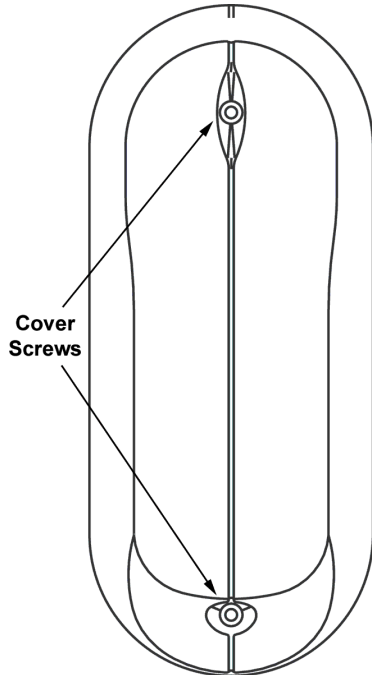
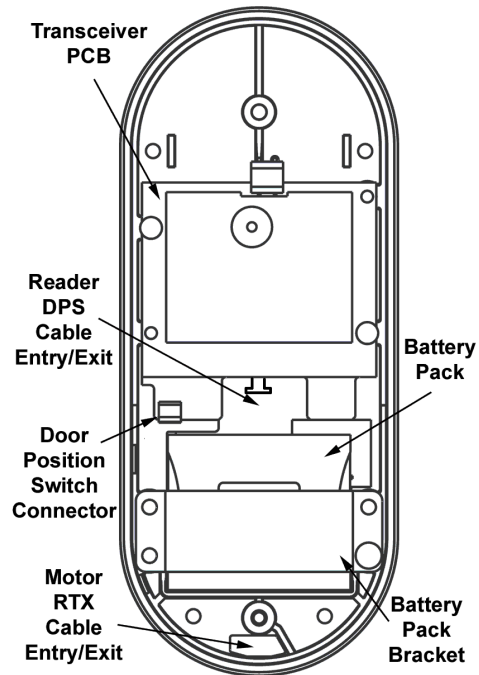

Figure 2-23 – Transceiver Cover
Figure 2-24 – Transceiver Base Plate Components
The Transceiver consists of two major components: the Transceiver Cover (Figure 2-23) and the Transceiver Base Plate (Figure 2-24). The Transceiver is mounted on the inside of the door.
- 2.9.1.1 Make certain that the Reader Cable is routed out the back of the Transceiver Base Plate in the opening just above the Battery Pack location (Reader/DPS Cable Entry/Exit, Figure 2-24).
- 2.9.1.2 Make certain that the Motor & Request to Exit Cable and Gray Ground Wire (ring terminal toward the Transceiver) are routed out the back of the Transceiver Base Plate in the opening at the bottom of the Transceiver Base Plate (Motor/RTX Cable Entry/Exit, Figure 2-24).
- 2.9.1.6 If the optional Door Position Switch is being installed, the wires coming from this switch should already be coming out the Reader Cable Hole and need to be routed through the Transceiver Base Plate in the opening just above the Battery Pack (Reader/DPS Cable Entry/Exit, Figure 2-24).